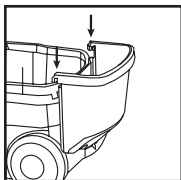

FIGURE 13
18. Insert tabs of accessory basket into slots on rear of tank. **FIGURE 13.**